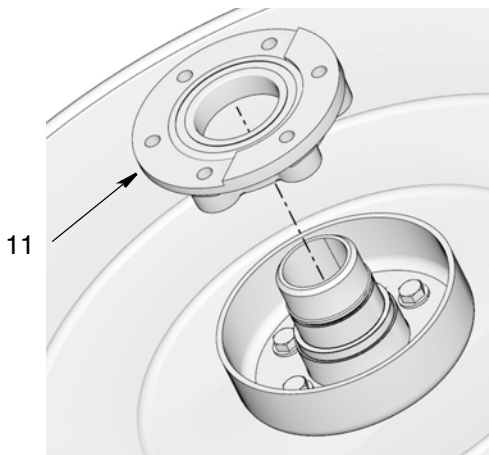

FIG. 36
- a. Slide bearing retainer assembly (11) onto shaft as shown in FIG. 36.